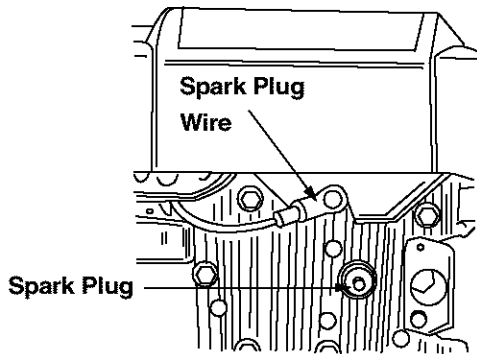

Figure 1
- Before setting up your lawn mower, disconnect spark plug wire from the spark plug, and ground it against the engine. See Figure 1 .
- In the case of lawn mowers where engine is equipped with a rubber boot, attach rubber boot to a bolt on the engine to ground. See Figure 1 .